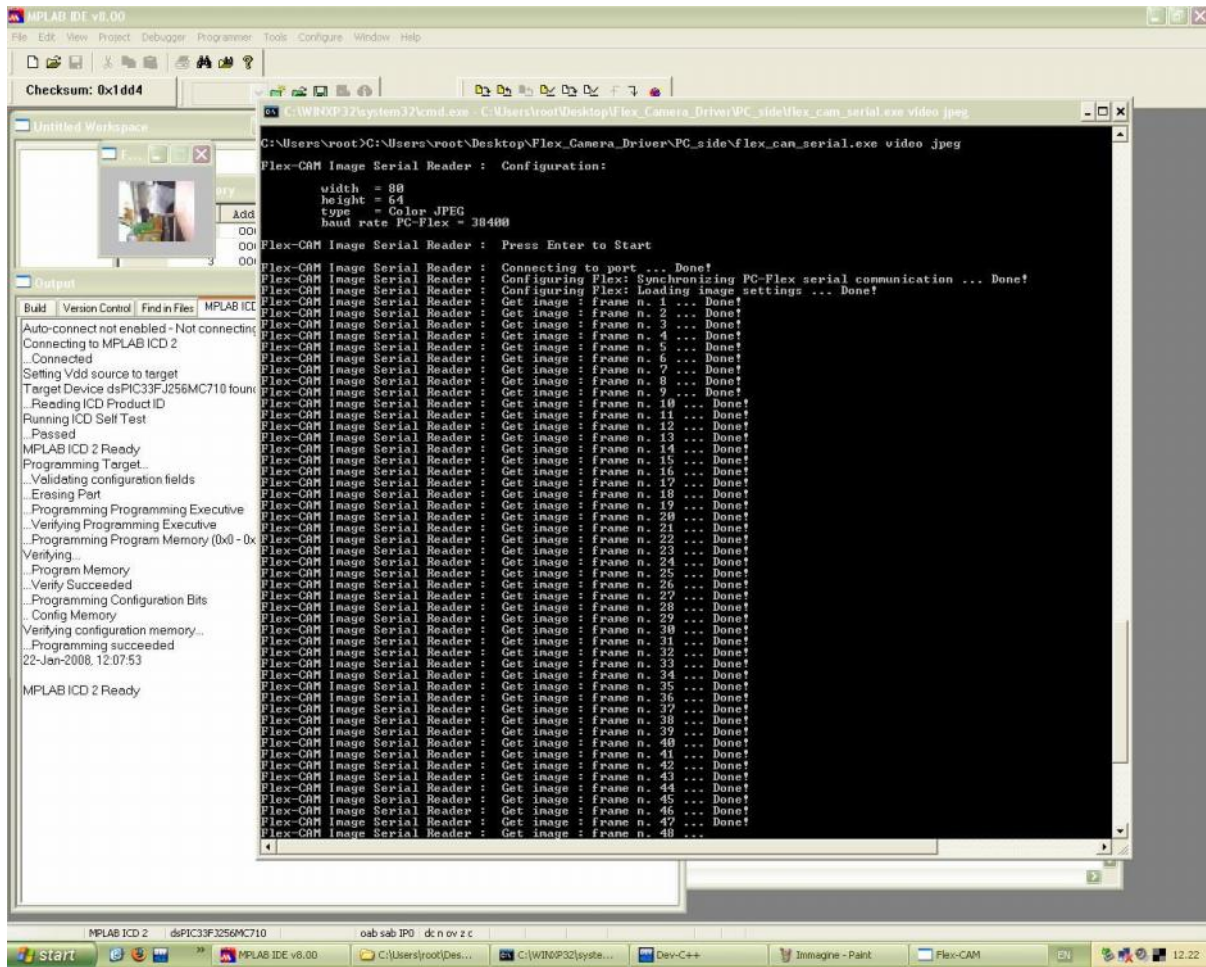

Figure 6 – Demo in progress
- If the images are not visible, select and move the little window (refer Figure 6 below)